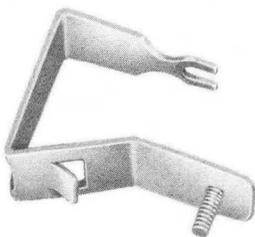

Fig. 32—72A Bracket
- 72A (MD) bracket (Fig. 32)—use with 123A1A and 123E1A protectors for indoor location